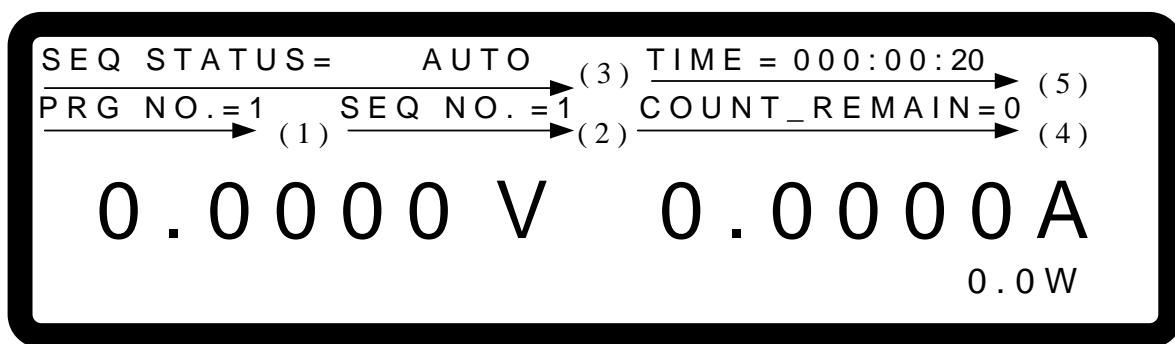

Figure 4-17
Figure 4-17 shows the main execution page of LIST MODE. Items (1) - (5) in the figure are explained below.